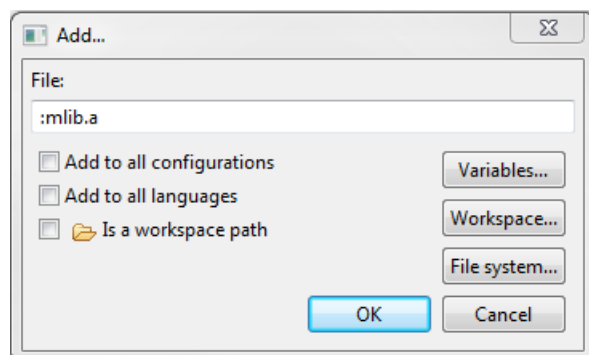

Figure 1-19. Library file inclusion
13. Type the following into the File text box (see Figure 1-19): :mlib.a